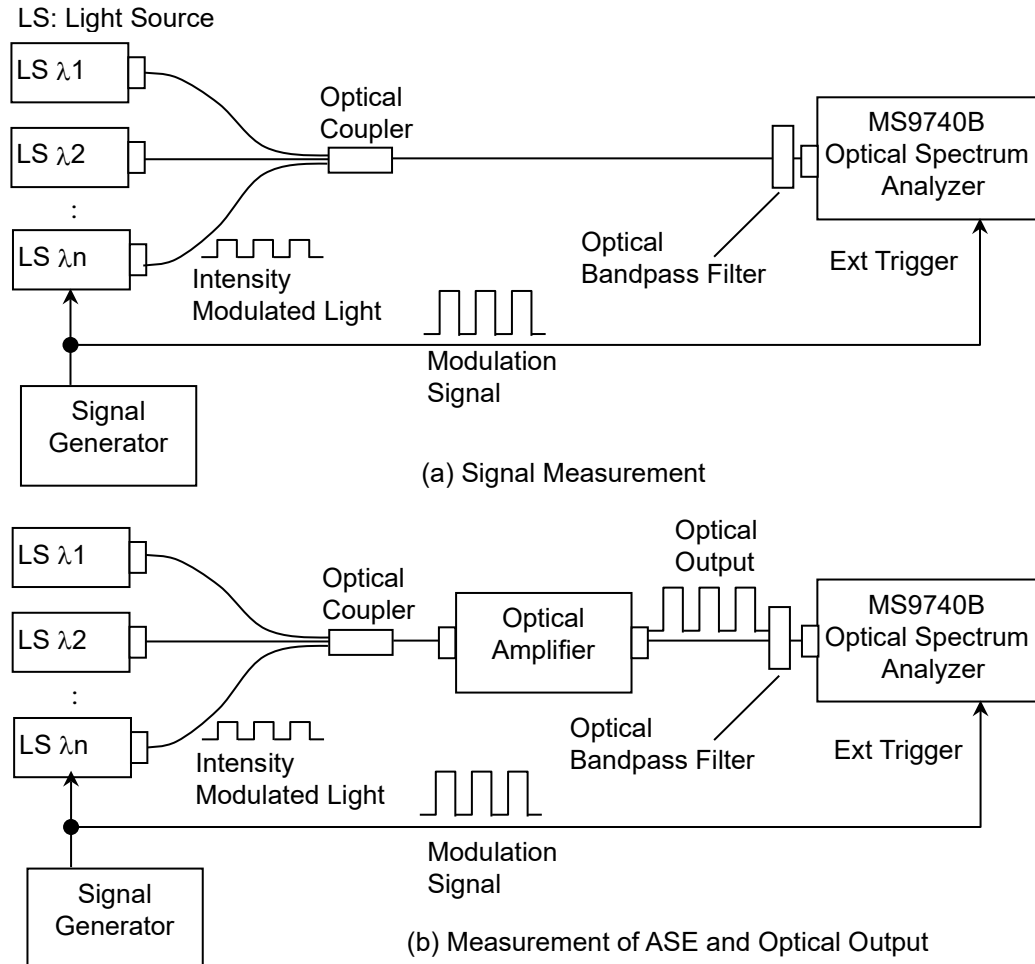

Figure 5.7.6-1 Measurement System When Optical Input is Wavelength Multiplexed
8. Input the output light of the optical amplifier to MS9740B as shown by the connection in Figure 5.7.6-1 (a).
22. Connect as shown by the connection in Figure 5.7.6-1 (b) and input the output light of the optical amplifier to MS9740B.